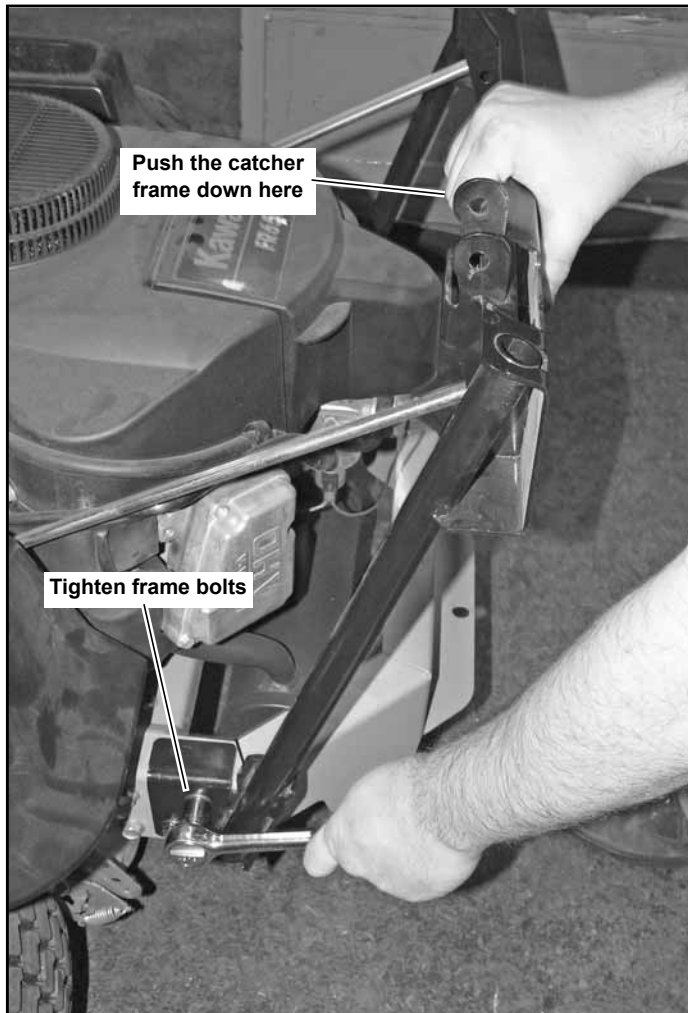

Figure 3-7
12. Push down on the catcher frame and tighten the lower frame bolts. Pushing down on the catcher frame while tightening these bolts will provide the correct tension on the tie rods. Figure 3-7